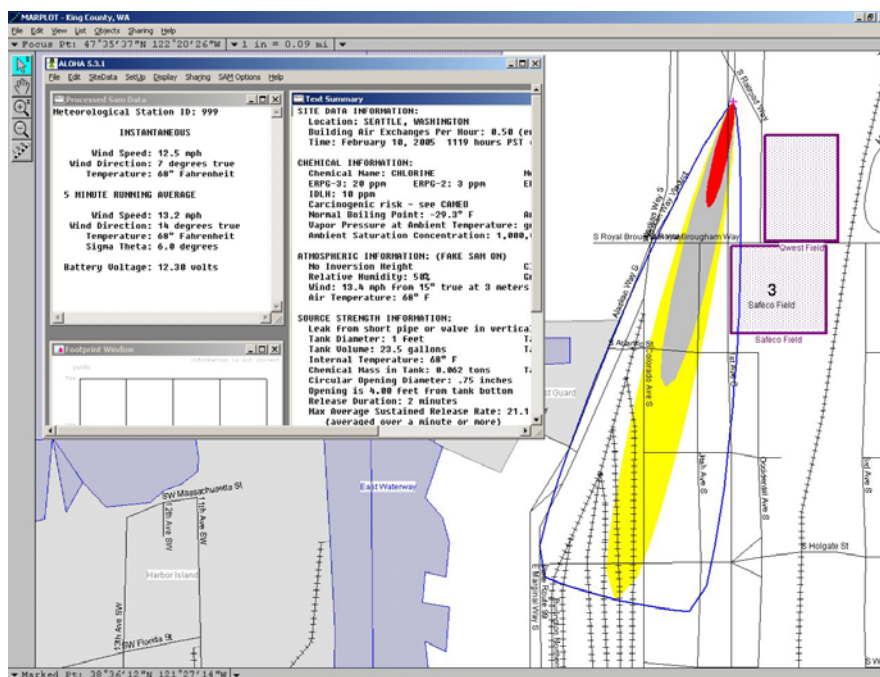

Figure 10 - ALOHA® with MARPLOT® Map
10. Select the [Sharing] drop-down menu to plot the plume onto a MARPLOT® (or other) map. As weather conditions change, the plume size and position will change, shortly after the WEATHERPAK® provides updated data. Note: MARPLOT® software requires that the ALOHA® window overlay the map window in order for the map-plume to update automatically. (See Fig. 10)